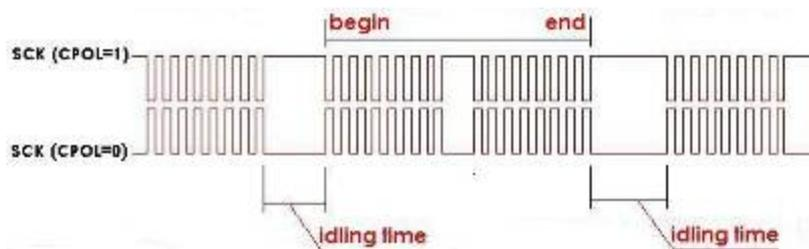

Fig 4-86 – Idling Time
(4) Type the idling time of the SCK signal on the tested SPI circuit. The idling time is defined as the idling time as shown in Fig 4-86.